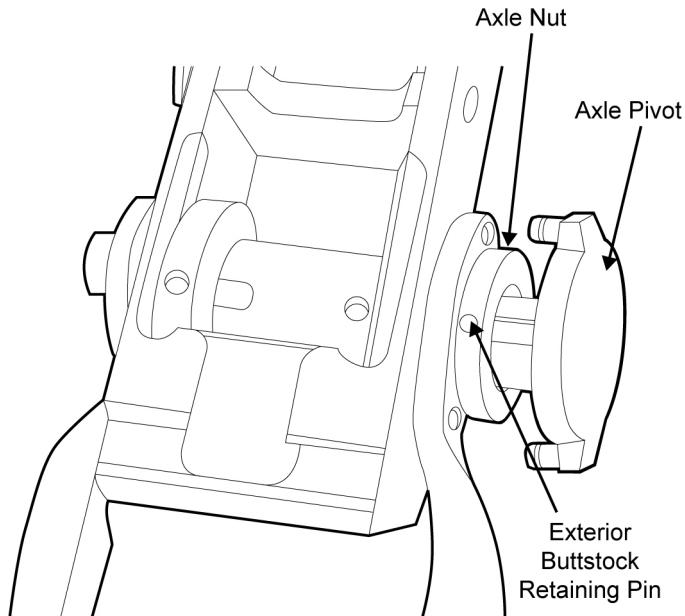

Figure 47. The Axle Pivot Partially Inserted and One of the Buttstock Retaining Pins Installed through the Axle Nut.
d. Insert the axle pivot into the right side of the buttstock axle and axle nut, only far enough to align the slot in the axle pivot with the holes in the axle nut. Insert one of the buttstock retaining pins into the axle nut, ensuring that the pin is through both sides of the axle nut. Restake each end of the buttstock retaining pin. Refer to Figure 47.